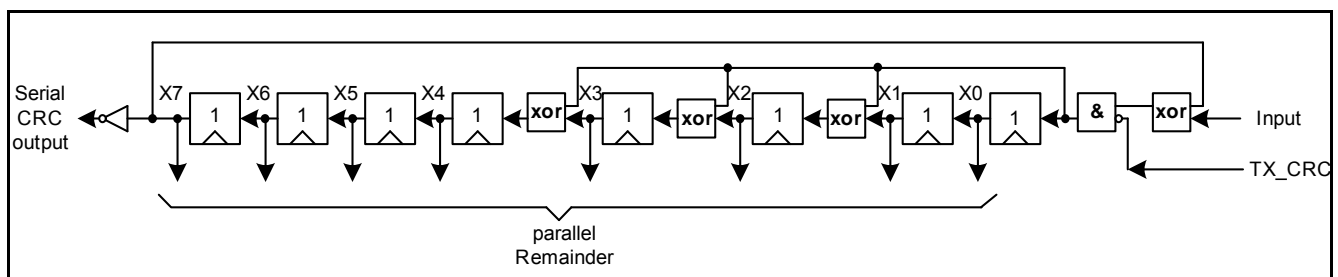

Figure 21 Fast CRC polynomial division circuit
- Generator polynomial: $X^8+X^4+X^3+X^2+1$, but for the CRC generation the fast CRC generation circuit is used (see Figure 21)